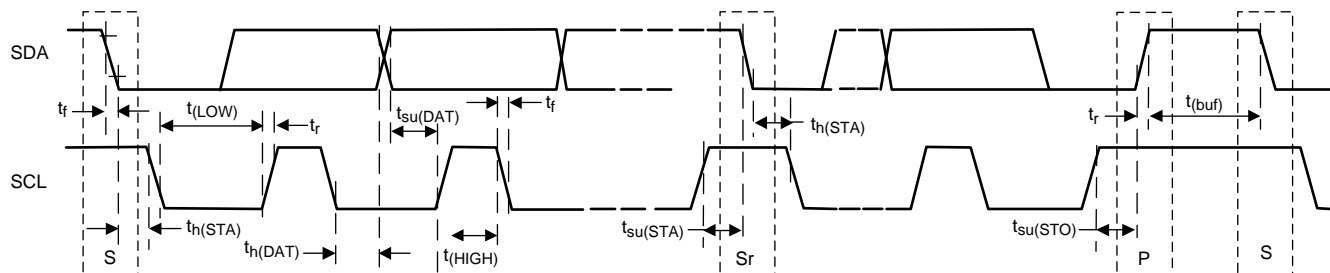
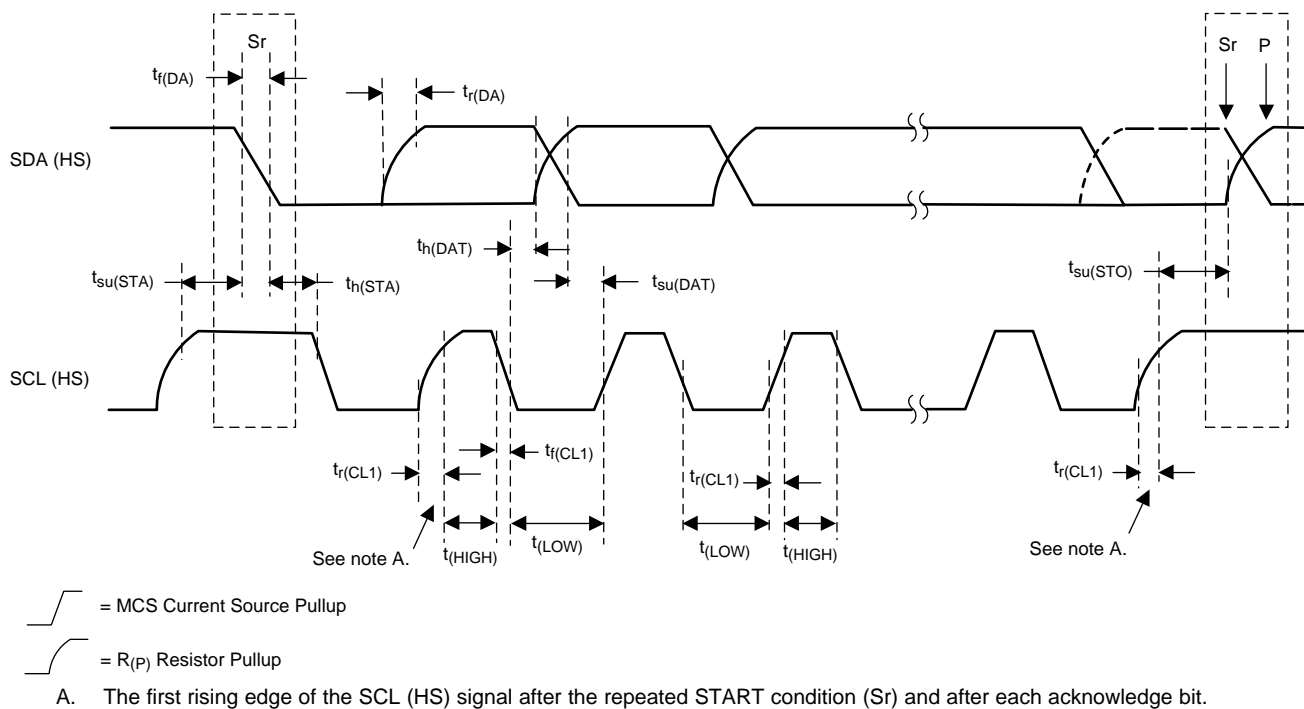

Figure 4-1. Serial Interface Timing Diagram for F/S Mode
Figure 4-2. Serial Interface Timing Diagram For HS Mode
Over operating free-air temperature range⁽¹⁾⁽²⁾⁽³⁾⁽⁴⁾. For the timing diagram for fast and standard (F/S) modes, see Figure 4-1. For the timing diagram for high-speed (HS) mode, see Figure 4-2.